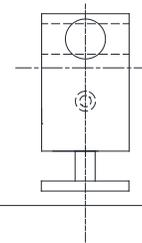

**Fig 9**
**9.** Insert the **Stationary Glass (#02)** into the installed **U-Channel (#01)**. (**Fig 9**)